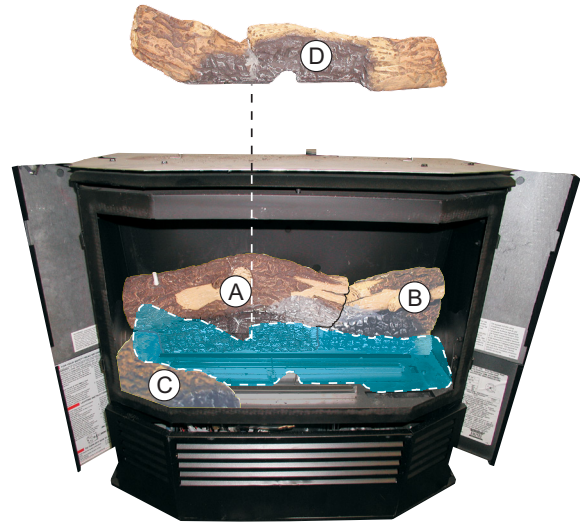

Figure 47
6. Place the Middle Log (D) over the flame sensors in the middle of the firebox. Log (D) should be positioned to the left side of the firebox. See Figure 47.